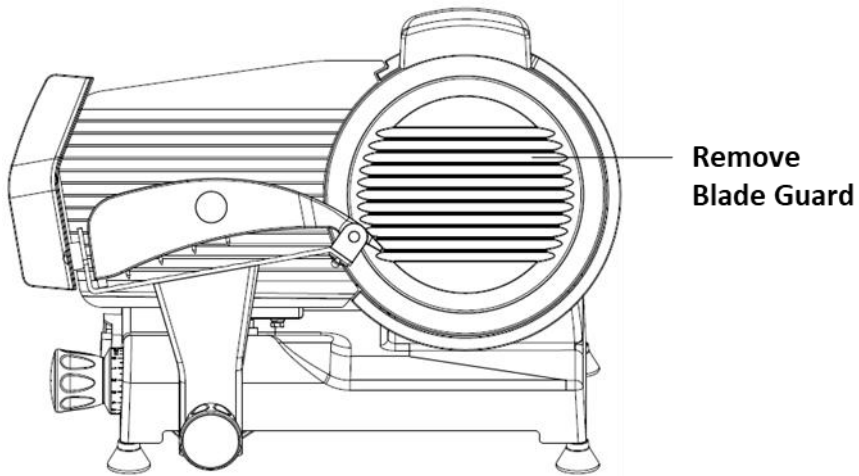

Fig. 3
- 5.With one hand flat on Blade Guard (Part #9), turn the black Blade Guard Knob (#14, located on the back of the slicer behind blade) counterclockwise until the Blade Guard (#9) is released. (Refer to Fig. 3)
- 6.Remove the three Phillips head screws that hold Blade (Part #8). (Refer to Fig. 3) The Blade is now released from shaft and can be removed by gently pulling outward. **USE EXTREME CAUTION: We highly recommend wearing cut-resistant gloves when removing, cleaning and re-installing the blade.**